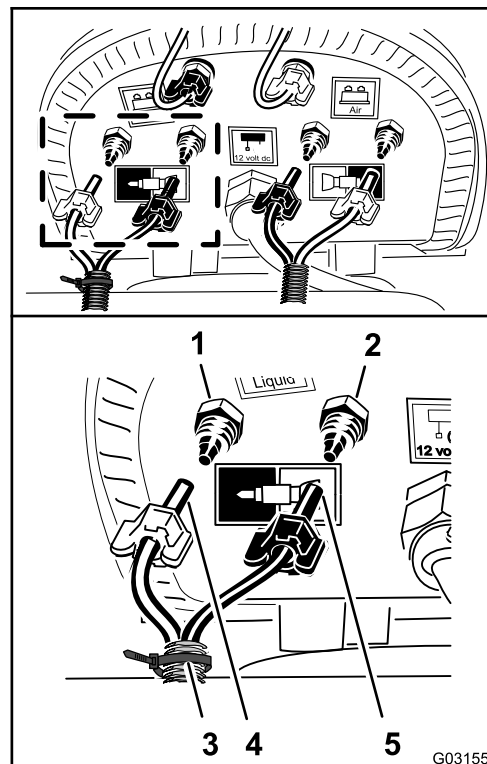

Figure 142
1. Connect the tubing with the cable tie that you prepared in step 9 of Preparing the New Tube Assemblies for the Foam-Marker Nozzles (page 16) by aligning the blue tube for the right spray section onto the compression fitting for the right-spray section water circuit (Figure 142).
2. Assemble the compression nut for the tube onto the fitting and tighten the nut by hand (Figure 142).
3. Aligning the clear tube for the right-spray section onto the compression fitting for the right-spray section air circuit (Figure 142).
4. Assemble the compression nut for the tube onto the fitting and tighten the nut by hand (Figure 142).